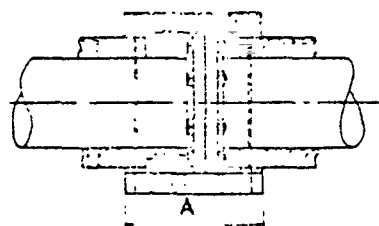

FIGURE 11
7.4 Line flanges shall be insulated with block or pipe insulation equal in thickness to the adjacent pipe covering. The length to be in accordance with Figure 11 and Table 2.